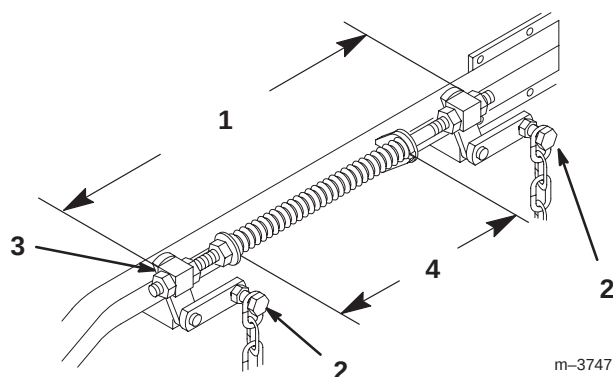

Figure 56
6. Loosen the 4 top chain bolts in the slots. Check the length of the rod/swivel assemblies. The distance from the outside of the rear swivel to the outside of the front swivel should be 19-17/32 in. (496 mm) (Fig. 56). Make sure that all four swivels move freely in the holes.
14. Adjust the compression springs by turning the front spring nuts so that the distance between the two large washers is 11 in. (279 mm) (Fig. 56). Clockwise will shorten the spring; counterclockwise will lengthen the spring.
15. Adjust the compression springs by turning the front spring nuts so that the distance between the two large washers is 11 in. (279 mm) (Fig. 56). Clockwise will shorten the spring; counterclockwise will lengthen the spring.